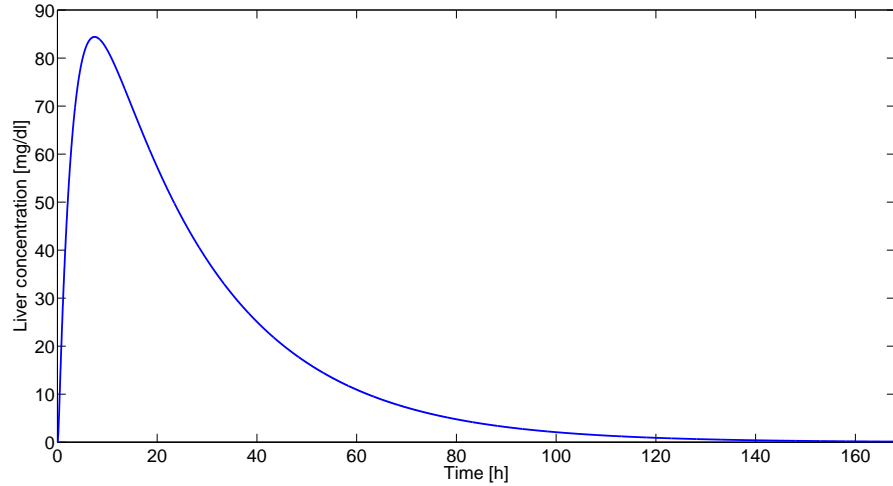

Figure 5.1 Liver concentration at 500 mg dose
- c.** Simulating the system with this oral prescription produces the curve in Fig. 5.1 below. See code in the end of the solution to this exercise.